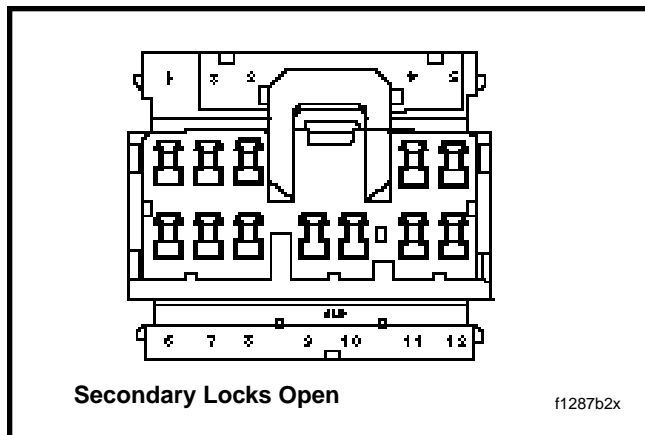

Figure 4. Numbers Stamped on Secondary Locks (Socket Housing Shown)
12. See Figure 4. The wiring diagram shows the stock electrical hookup.